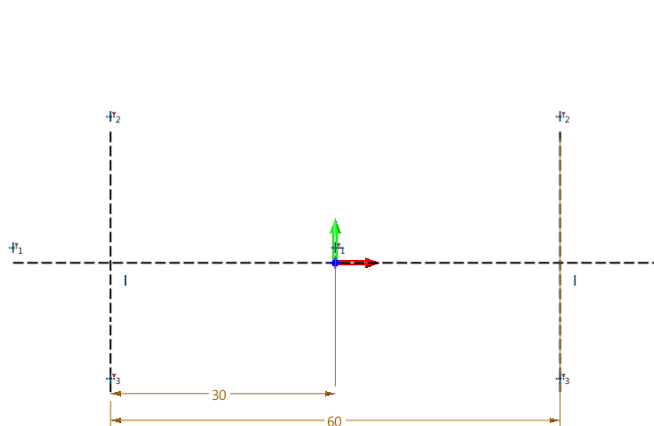

Figure 138 Construction Lines
STEP 01 Draw three construction lines, as shown in Figure 138.